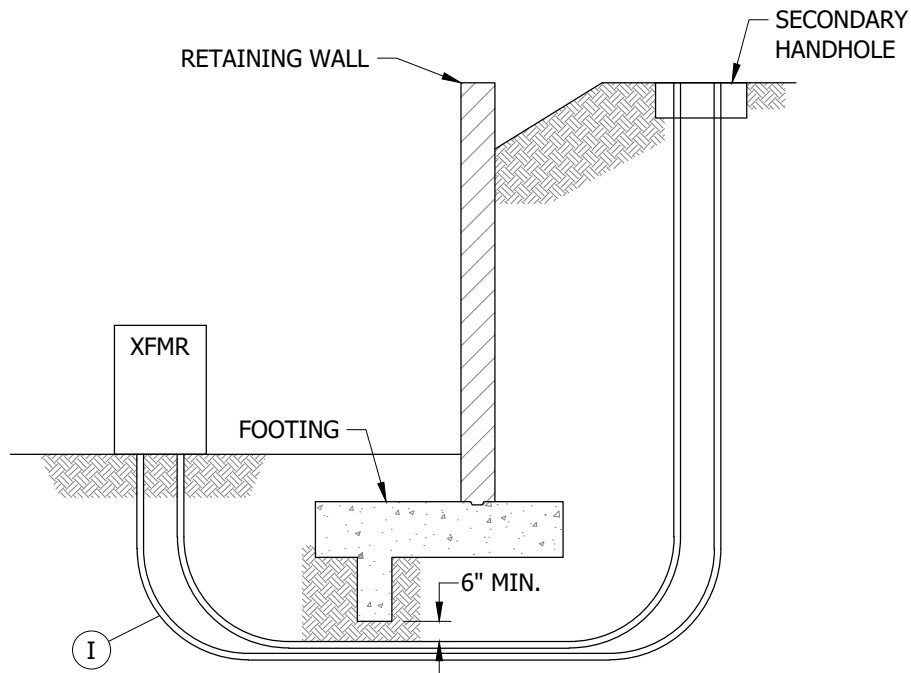

FIGURE 2
- (F) HEAT SHRINK SLEEVES ARE REQUIRED ON DOUBLE AND TRIPLE ENTRANCE ADAPTORS (STYLE B ON FIGURE 2), INSTEAD OF THE HAND TAPED APPLICATION. BOTH METHODS DESCRIBED WILL PREVENT WATER AND OTHER DEBRIS FROM ENTERING THE SUBSTRUCTURE.